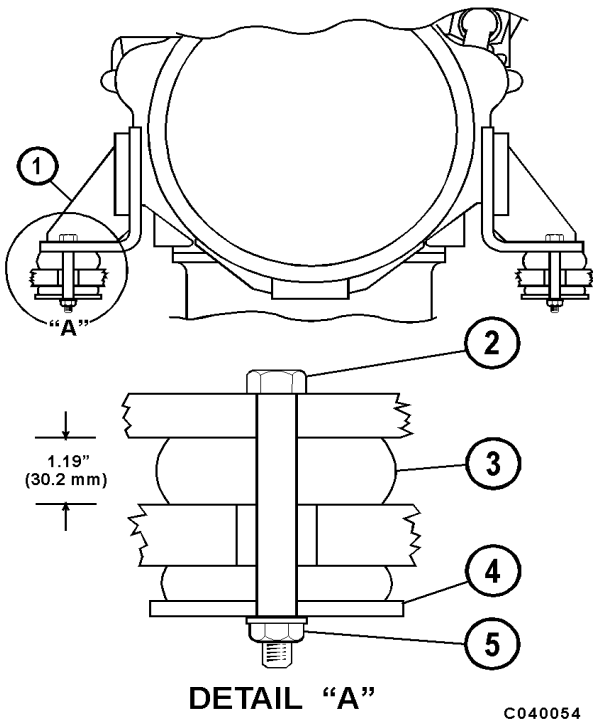

FIGURE 4-3. REAR ENGINE MOUNT
12. Measure distance from rear engine mount, on each side, to frame mount at all four rubber mounts (Figure 4-3). Distance should be 1.19 in. (30.2 mm). If less than this dimension, replace rubber mounts after engine is removed.
15. Remove capscrews from four rear engine rubber mounts (1, Figure 4-3).